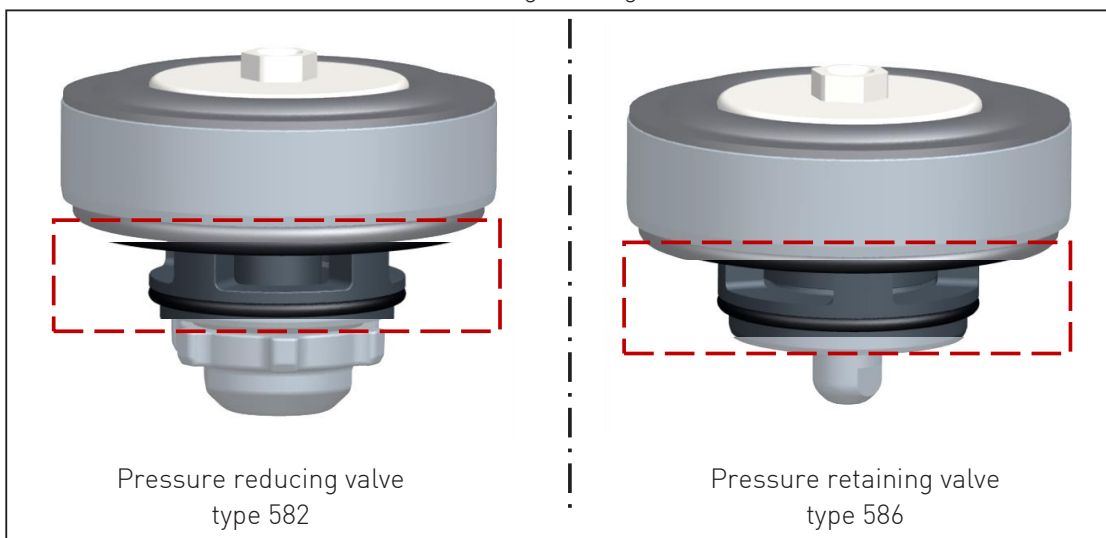

Fig. 17
- ▶ Clean the drill holes of the inner housing, see Fig. 17